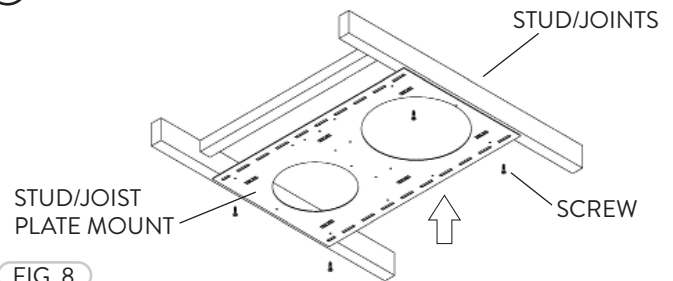

FIG. 8
- 2 Nail or screw the Plate to the Stud/Joists of the ceiling (Fig. 8).